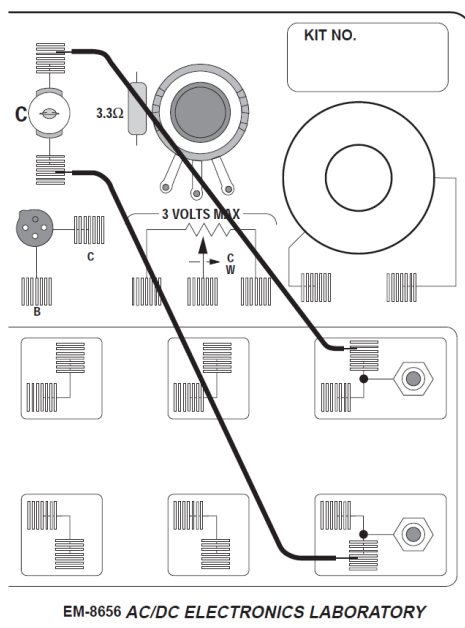

Figure 11.3
2. Use two of the 10" wire leads to connect the component springs near the banana jacks to the component springs above and below the 3 volt light bulb labeled "C", as shown in Figure 11.3 below.